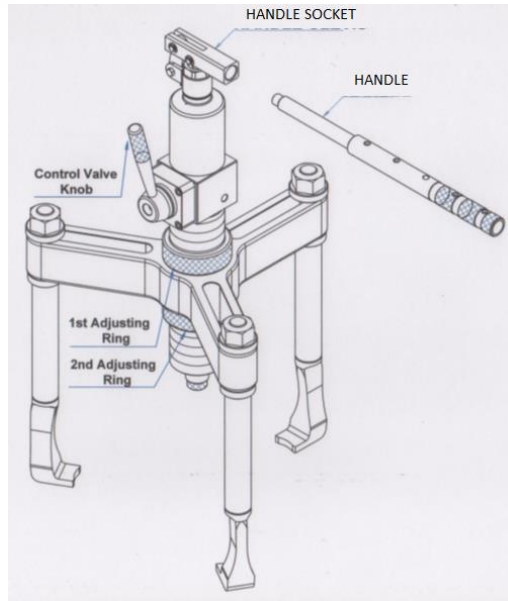

Figure 1 – Outer Pulling
- 5.1.3 Ensure the 1st adjusting ring (Figure 1) is wound up and as far away from the crosshead as possible and the 2nd adjusting ring (Figure 1) is wound up and firm against the crosshead.
- 5.2.5 Ensure the 1st adjusting ring (Figure 1) is wound down and firm against the crosshead and the 2nd adjusting ring (Figure 1) is wound down and as far away from the crosshead as possible.